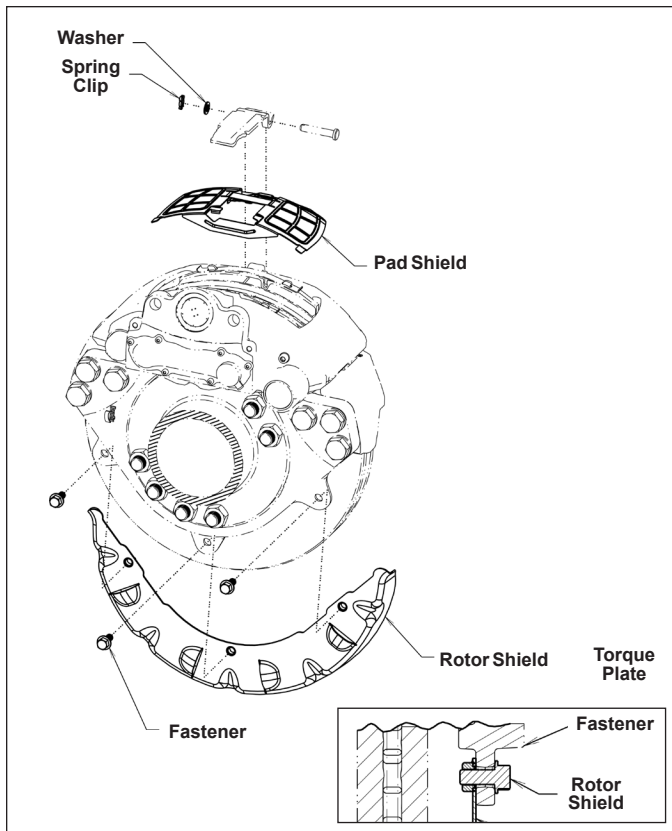

Figure 30 – Drive or Steer Axle Exploded View with Inset Showing Rotor Shield Installation
4.1.2 Remove and discard the spring clip and washer from the pad retainer pin. Remove and retain the retainer bar and retainer pin. Position the pad shield as shown and reinsert the retainer bar. Install the retainer pin. Use the included spring clip and washer to secure the retainer pin. Check that the pad shield is held securely in place by the retainer bar. See *Figure 30 or 31*.
4.1.3 Drive or Steer Axle Rotor Shields (See Figure 30.) Position the rotor shield *between the torque plate and the rotor*. The supplied cap screws pass through the mounting tabs in the torque plate and install into the shield. Torque cap screws to 44 ft-lbs (59.6 N•m).